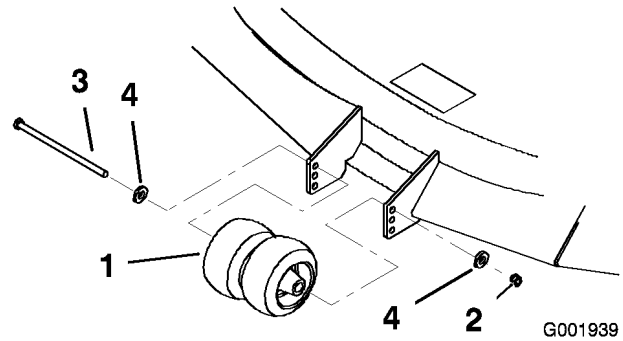

Figure 4
2. Install the center gage wheels with the previously removed bolt, spacer, small washer, and nut (Figure 4).